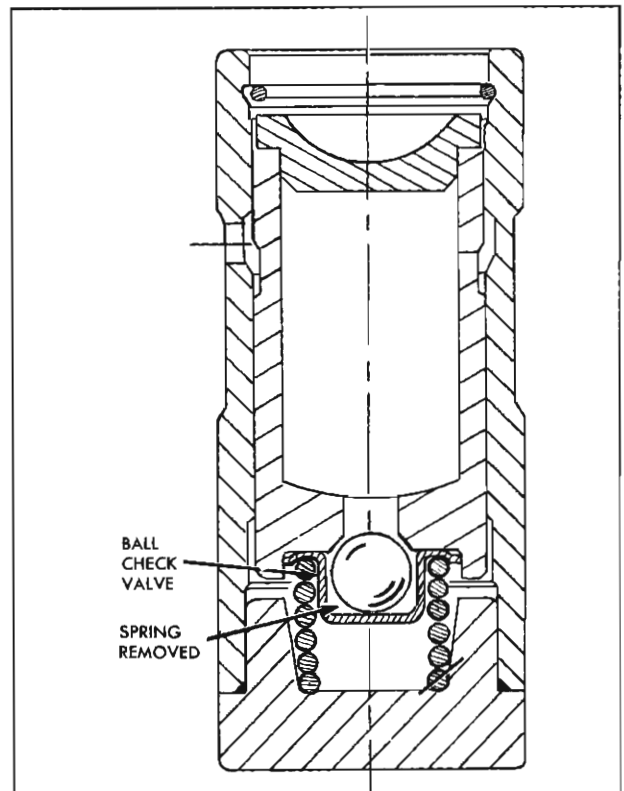

Fig. 7—Hydraulic Valve Lifter Cross-Section
**NOTE:** It is not necessary to remove ball check valve from plunger for cleaning. Figure 7 shows a cross-section of lifter.